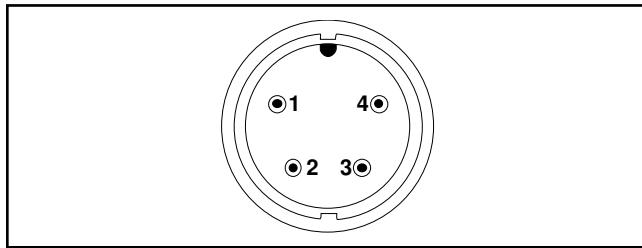

Figure 10. RF Detector Cable Connector Pin Layout
6. Connect the DMM leads between pins 1 and 2 of the RF detector cable connector (Figure 10). Measure the resistance value, which is the maximum resistance of R1 (approximately 40.5 K Ω is typical). Record this value; it will hereafter be referred to as “R_T”.